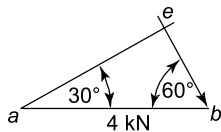
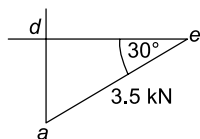
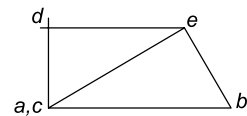

Figure 7.16
Figure 7.17
Figure 7.19
Consider joint ABE , as there are only two unknown forces here, namely the forces in the members BE and EA . Working clockwise around this joint, the vector diagram for this joint is shown in Figure 7.16.
Joint (2) cannot be considered next, as it has three unknown forces, namely H_2, R_2 and the unknown member force DE . Hence, joint (1) must be considered next; it has two unknown forces, namely R_1 and the force in member ED . As the member AE and its direction can be obtained from Figure 7.16, it can be drawn to scale in Figure 7.17. By measurement, $de = 3$ kN.
As R_1 is vertical, then the vector da is vertical, hence, the position d can be found in the vector diagram of Figure 7.17, where $R_1 = da$ (pointing downwards).
The complete diagram for the whole framework is shown in Figure 7.19, where it can be seen that this diagram is the sum of the vector diagrams of Figures 7.16 to 7.18.